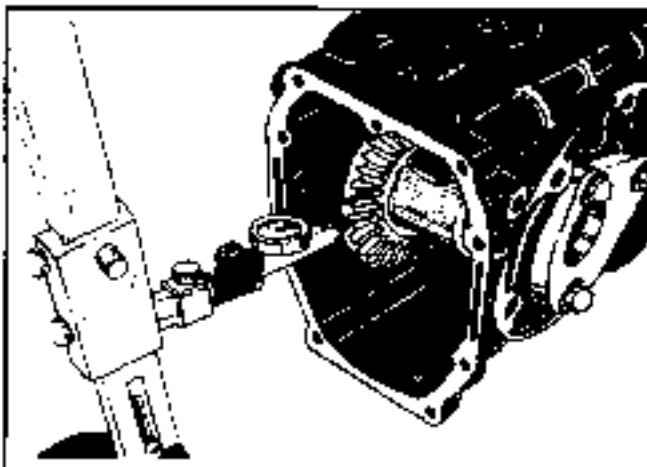

FIGURE 5.
- b. Ring gear to pinion backlash .003" to .009", (Figure 5)